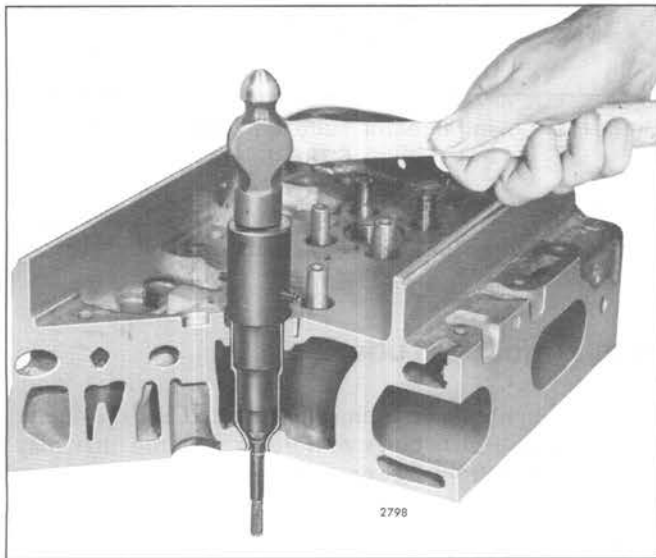

Fig. 2 - Installing Injector Tube with Tools J 5286-4C and J 5286-5
3. Slip the injector tube into the injector bore and drive it in place (Fig. 2). Sealing is accomplished between the head counterbore (inside diameter) and outside diameter of the injector tube. The tube flange is merely used to retain the seal ring.